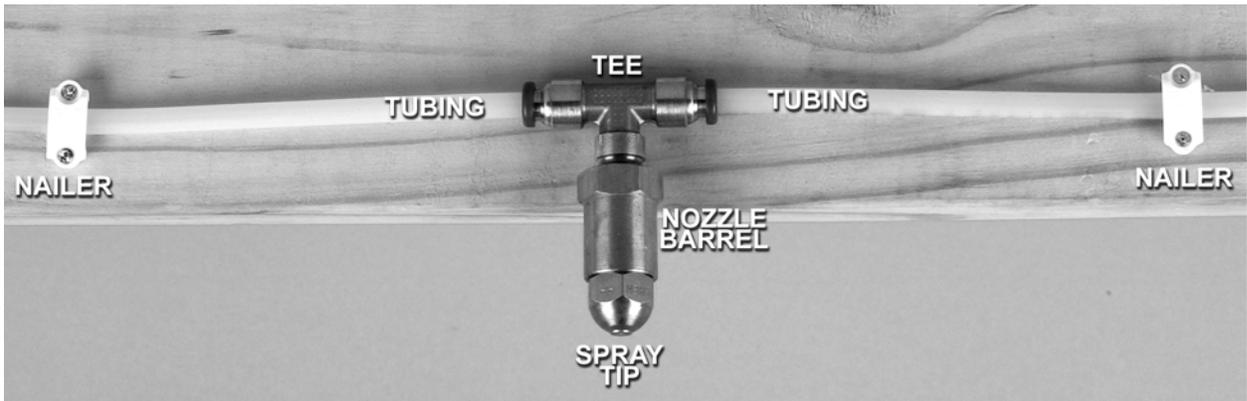

Figure 5 – Spray Nozzle Tee with Tubing and Nailers
15. Push the tubing firmly into the side of the spray nozzle tee (figure 5). Pull gently to confirm that you have secure connections. If leakage occurs, remove tubing by
16. Using the plastic nailers (figure 5) or plastic ties, install the tubing and spray nozzles above the center of each stall and 6 feet inside of each exterior door. Do not install above 15’ from the floor. Use cable wire if necessary. Make sweeping turns with the tubing around corners to avoid kinking.